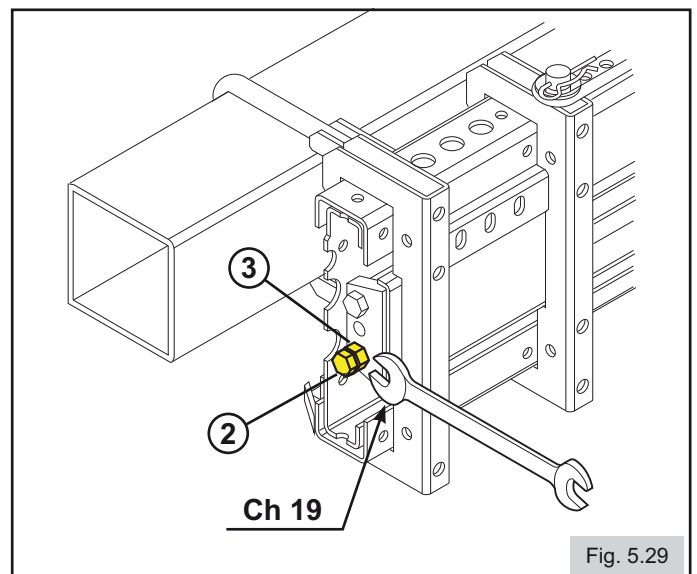

Fig. 5.29
- End your adjustment by acting on screw **2** and nut **3** (Fig.5.29).